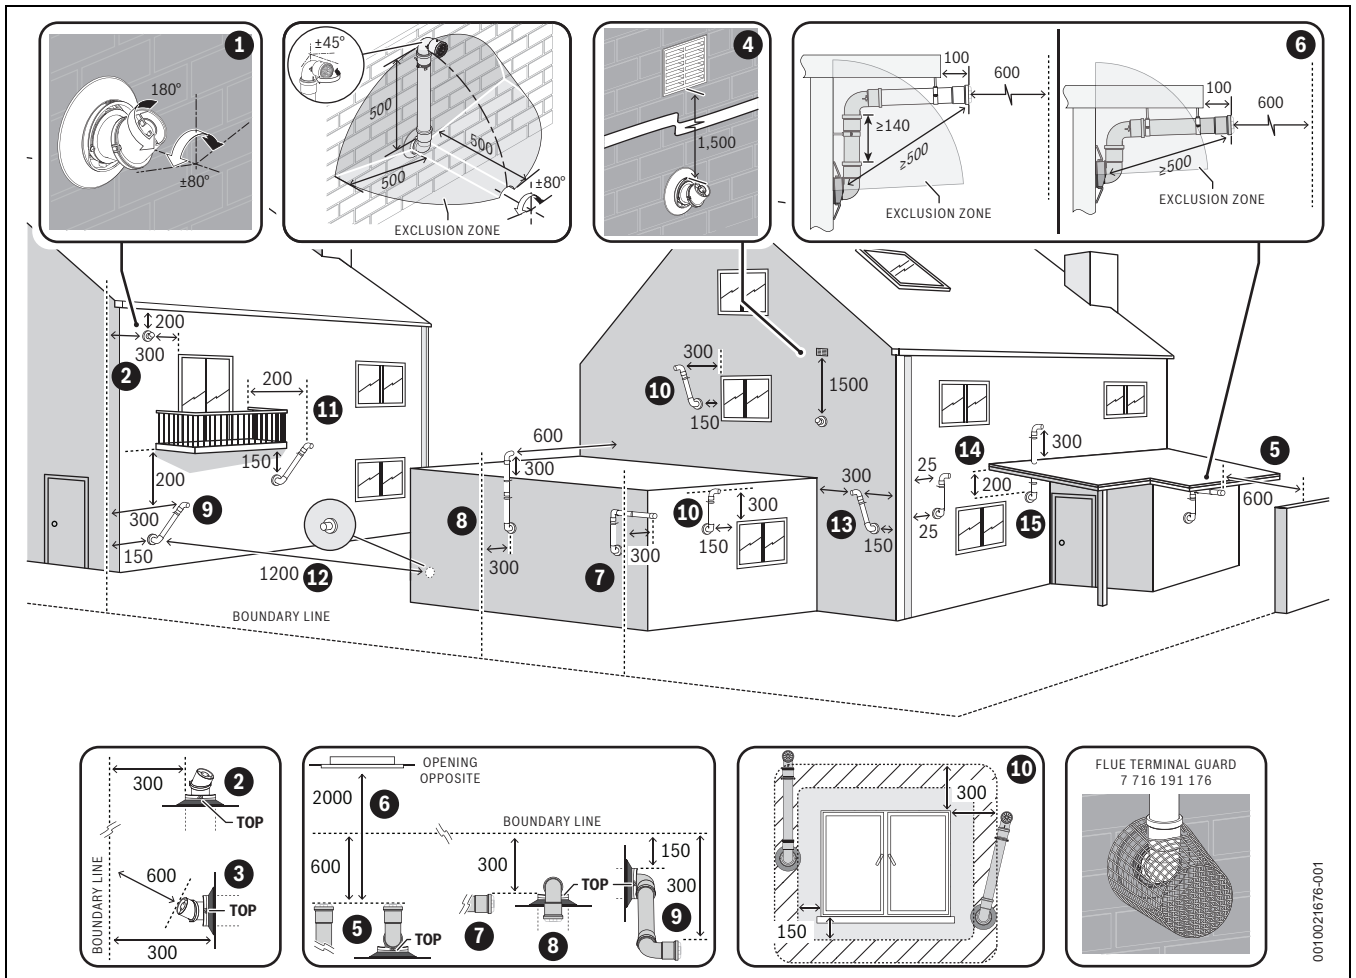

Fig. 30 Plume re-redirect and plume management terminal positions
- ▶ Refer to “Horizontal flue terminal positions” for all concentric flue terminal positions unless the flue position is specified in figure 30 “Plume re-redirect and plume management terminal positions”.
Key to figure 30